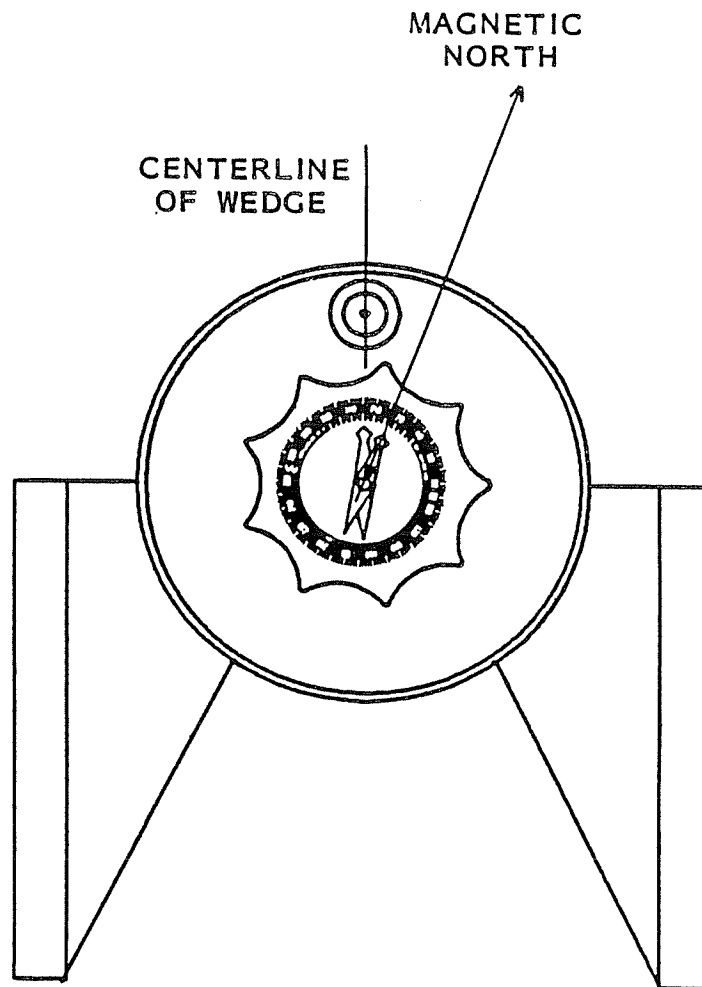

Figure 3
1. Loosen the knob/compass slightly. This allows for rotation of the Equatorial Wedge under the knob/compass (Figure 3). The magnetic pointing arrow will point to magnetic north.